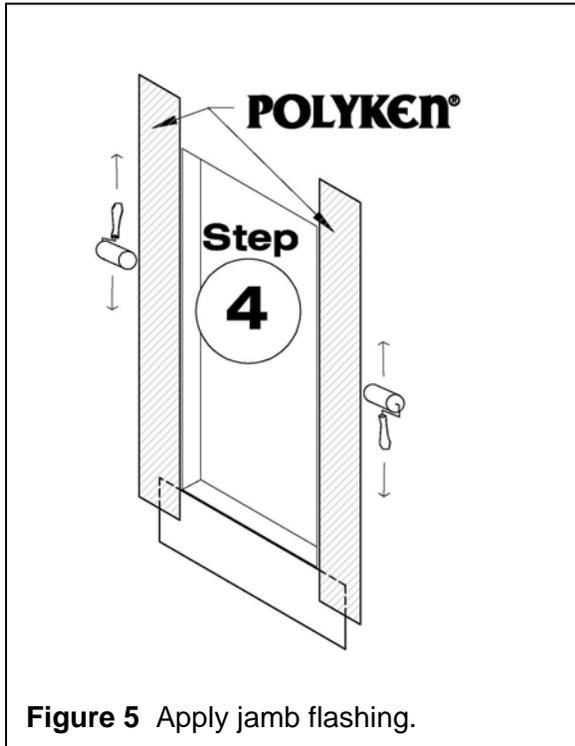

Figure 5 Apply jamb flashing.
Step 4. Precut Polyken® or Nashua® jamb flashing tape to extend a minimum of 6" above and below the rough opening. Peel off release liner and adhere Polyken® or Nashua® jamb flashing over the jamb fins and over top of Polyken® or Nashua® sill flashing (see Figure 5).